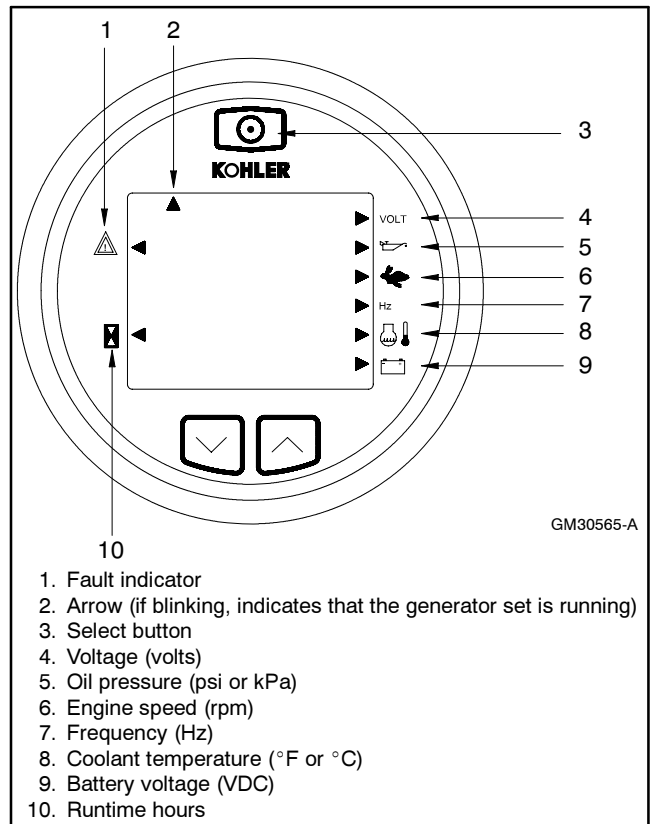

Figure 7 Remote Digital Gauge
- (1) With no power to the gauge, press and hold the SELECT button. See Figure 7.
- (2) Apply power to the gauge.
- (3) The gauge displays: **Adc 2100**
- (4) The gauge displays: **Unit SEt**
- (5) Press and hold *both* the UP and DOWN buttons until the gauge beeps and the display changes.
- (6) Use the UP or DOWN buttons to select either **Int** or **USA** units.
- (7) Press and hold *both* the UP and DOWN buttons until the gauge beeps and the display changes.
- (8) Press the DOWN button.
- (9) The gauge displays: **ESC 08 ?**
- (10) Press and hold *both* the UP and DOWN buttons until the gauge switches to the monitor mode.
Press the SELECT button until the display shows generator set data and indicator arrows. Use the UP or DOWN arrow to scroll through the data. The corresponding illuminated arrow indicates which data is being displayed. See Figure 7. Any faults are displayed in blinking text. The following generator set operation data is displayed in this mode:
Note: The ADC 2100 must be powered (display active) and the master switch must be in the AUTO position for remote start/stop. If the ADC 2100 master switch is in the RUN position, a remote stop command will not stop the generator set. The arrow at the top left side of the display blinks to indicate that the generator set is running (see Figure 7, item 2).